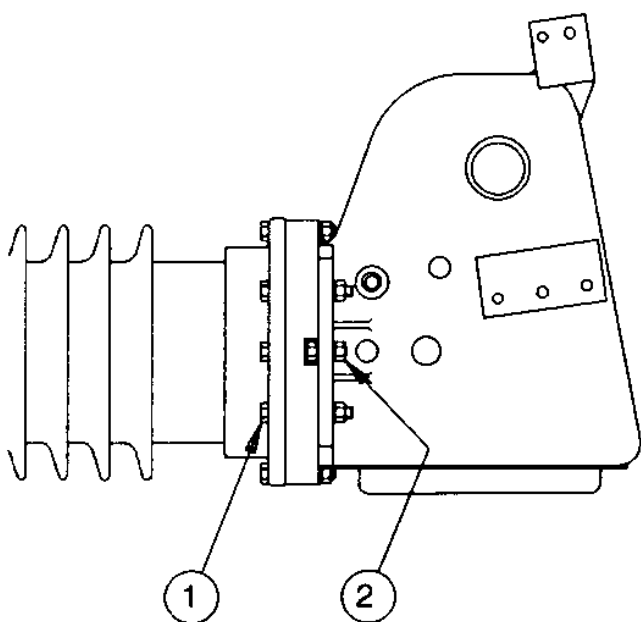

Figure 55 -- Driver/Interrupter Joint
5. With reference to Figure 55: